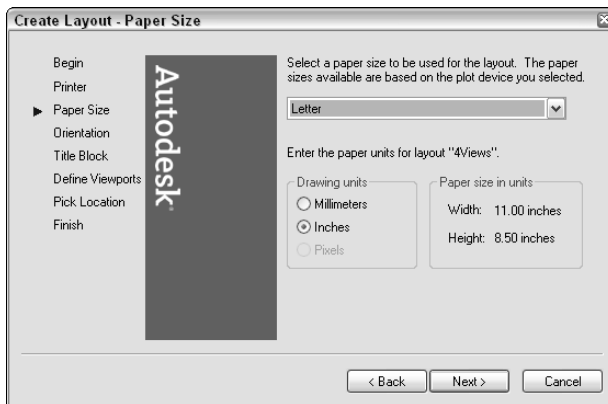

Figure 17-3: The Paper Size screen of the Layout Wizard.
4. On the third screen, shown in Figure 17-3, specify a paper size and drawing units, and then click Next.